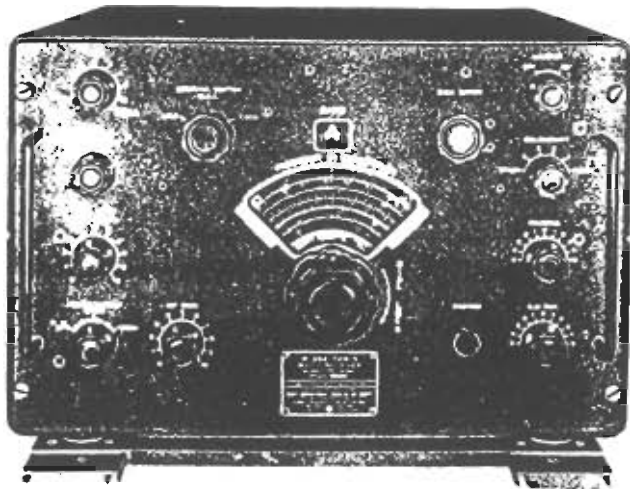

Figure 1-3. Radio Receiver R-366/TRR-5.
(2) Radio Receiver R-366/TRR-5 (See figure 1-3) is the main unit of Radio Receiving Set AN/TRR-5. The Marine Corps green finish cabinet is equipped with a
carrying handle on each end of the front panel. Four shock mounts form the support for the cabinet. The receiver mounts in the cabinet on parallel sliding rails and is clamped firmly in position by four thumb screws. The receiver may be removed from its cabinet by loosening the thumb screws and sliding forward until a stop is reached, then lifting up and out. See figure 1-3 for a general view of Radio Receiver R-366/TRR-5.